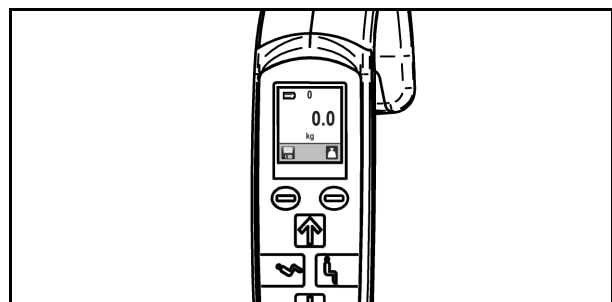

Fig. 57
2. If the sling has already been installed on the spreader bar at start-up, the Maxi Move has already zeroed automatically and taken the weight of the sling into account (see Fig. 57).